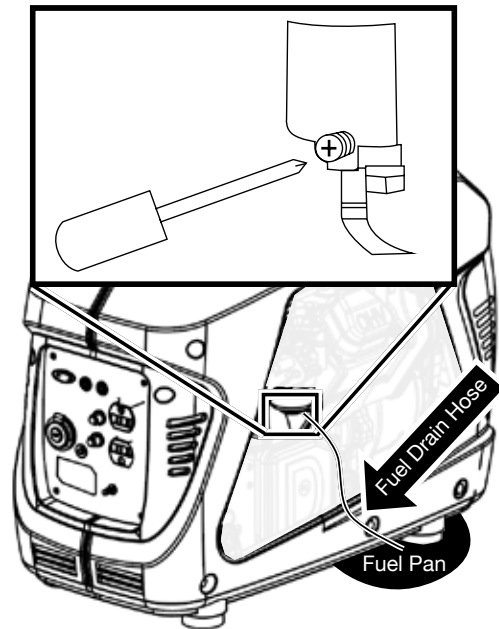

Figure 16: Locate fuel drain screw and fuel drain hose
2. Locate the clear plastic hose from the float that is exiting out the bottom of the inverter, and place a suitable container under it to catch the drained fuel (see Figure 16).
3. Loosen the float bowl drain screw (see Figure 16) until fuel is seen draining from the float bowl.